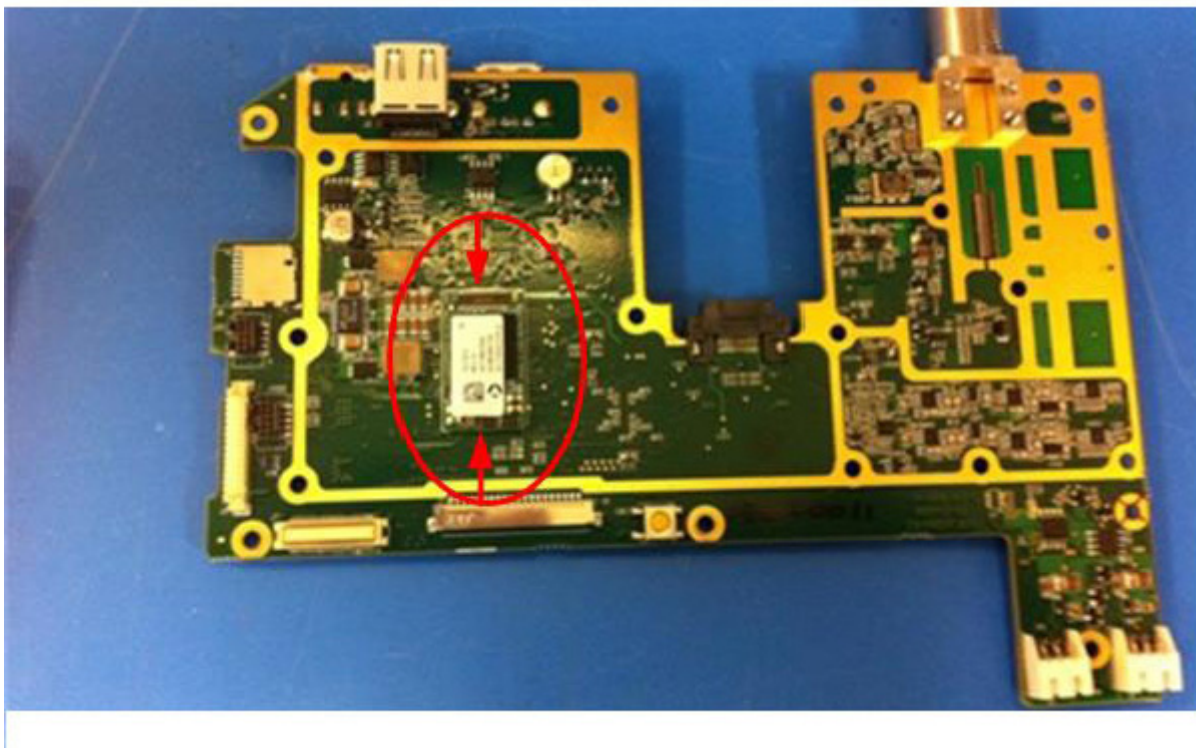

Figure 4-21. With Shields Removed the SOM Can Be Removed
6. With the shields removed the SOM Module can now be removed by gently prying up at each end where the arrows are located until the module releases from the Main/VNA PCB, see Figure 4-21. Make note of the orientation of the SOM Module so it can be installed the same way. For installation gently press the new SOM module in place by supporting the back side of the Main/VNA PCB, to prevent the Main PCB from flexing..